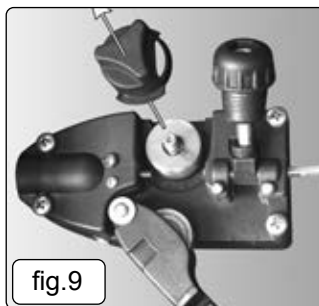

fig.9
7.3.1. There are two grooves on the feed roller, 0.8mm and 1mm. Always have the groove that is being used on the outside of the roller (nearest to you). To turn the feed roller first loosen the wire tension knob and move it into its up position (see fig.8-1) then move the tensioning roller assembly to its down position (see fig.8-2). Take hold of the triangular knob on the roller retainer and rotate it 90° anticlockwise to release it as shown in fig.8.3. Now pull the roller retainer off the drive spindle to reveal the roller as shown in fig.9.